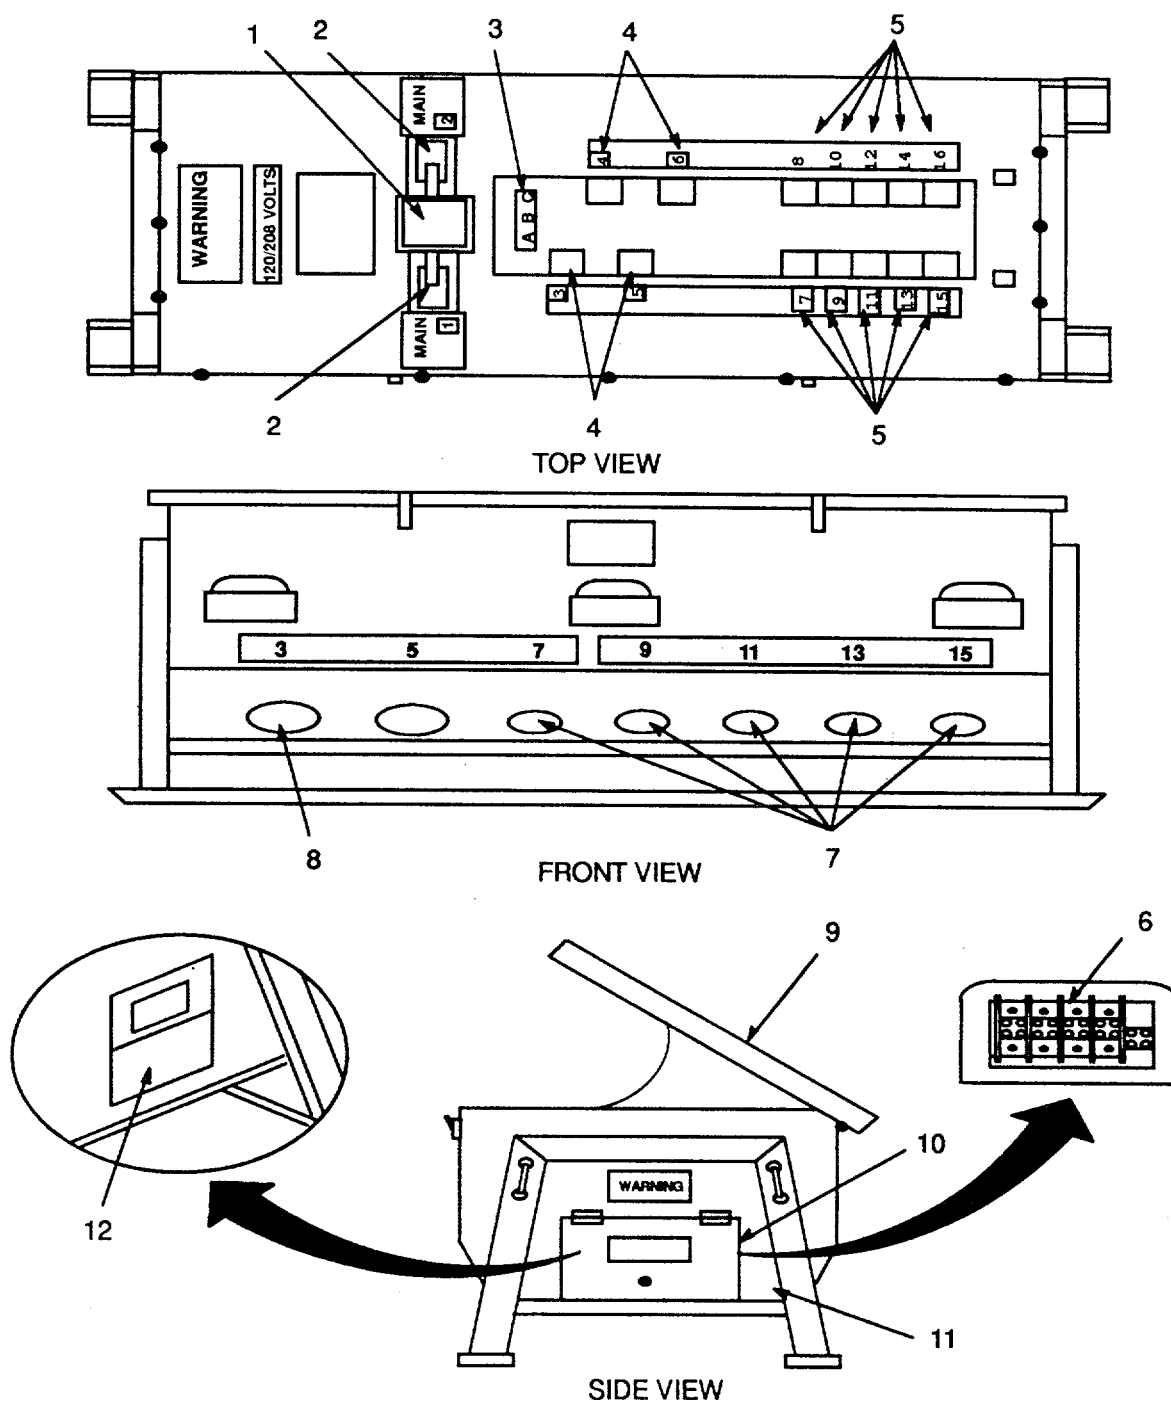

Figure 1-2. Power Distribution Panel Component Location.
- 1.9.2 Equipment Components (Figure 1-2).